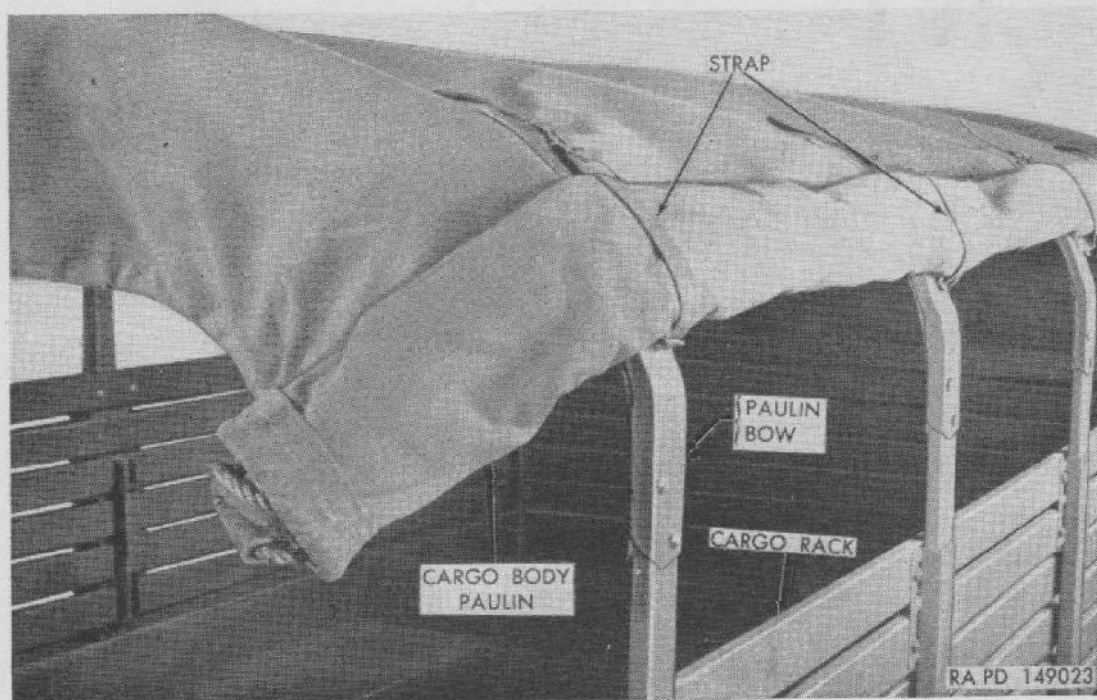

Figure 185. Positioning body paulin.
- (1) *Removal.* Untie all side and rear top cover lashing ropes. End curtains may or may not be removed at this time. Make first fold on each side lengthwise until lower edge of cover is even with top buckles. Make second fold lengthwise on both sides until both folds meet. Bring one folded side over the other fold. At each end, make an equal fold toward the center. Make another equal end fold until folded cover is laying across center bow.
- (2) *Installation.* Unfold cover and secure in place with lashing ropes.
- (3) *Positioning top cover for ventilation.* Untie all top cover lashing ropes. Roll up sides as shown in figure 185, or preferably fold each side *under* three folds. Straps on bows may then be fastened to buckles on top cover.